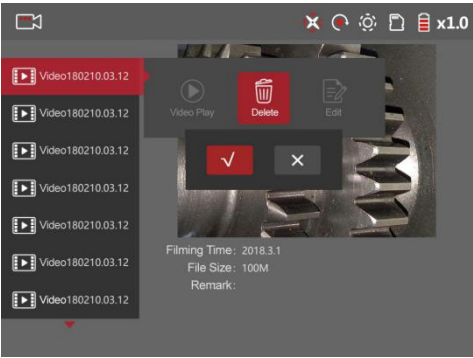

Figure 18
- 3) Delete files (Figure 18).